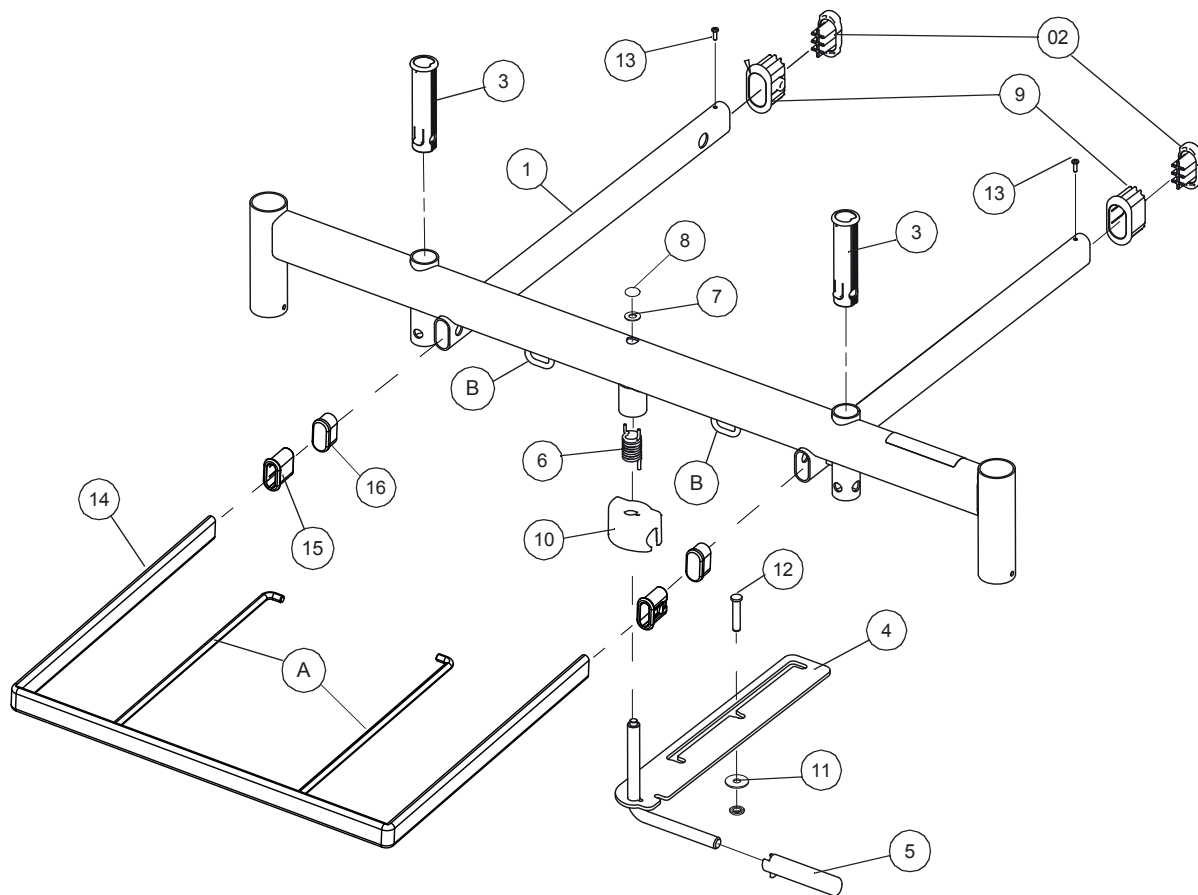

Figure 19: Bed Extension / Bed Stripper Assembly
This section describes how to replace the bed extension and optional bed stripper. Reference is made throughout this section to Figure 19 on page 59.
- 20.1.1 Pull out the bedstripper (if fitted) as far as it will go (Fig 19, Item 14). Push the two middle bars (A) outwards so they will pass through the retaining loops (B) and remove the bedstripper from the extension assembly.
- 20.1.2 Pry off and discard the starlock (Fig 19, Item 8) from below the foot end of the sub-frame. Collect the washer (Fig 19, Item 11). Pull out the clevis pin (Fig 19, Item 12) to free the bed extension locking handle fabrication (Fig 19, Item 4). Note: the handle will spring across when the clevis pin is removed.
- 20.1.3 Push in the locking tabs on the side of each extension bush moulding (Fig 19, Item 9). Pull the extension assembly out of the sub-frame.
- 20.1.4 To remove the extension locking handle: pry off and discard the capped starlock (Fig 19, Item 8), collect the washer (Fig 19, Item 7). Pull out the handle from below and collect the handle cover (Fig 19, Item 10) and spring (Fig 19, Item 6).
- 20.2.1 Fit the spring (Fig 19, Item 6) and cover (Fig 19, Item 10) on the extension locking handle fabrication (Fig 19, Item 4). Assemble the handle into the extension fabrication (Fig 19, Item 1); make sure the spring locates in the slots on the locking handle and extension fabrication. Secure with the washer (Fig 19, Item 7) and a new capped starlock (Fig 19, Item 8). Make sure the handle swings freely about the pivot but is not too loose.
- 20.2.2 Slide the extension assembly into the sub-frame. Push the extension bush mouldings (Fig 19, Item 9) into the sub-frame tubes so that the locking tabs engage the holes in the tubes.
- 20.2.3 Fit the clevis pin (Fig 19, Item 12) down through the sub-frame foot end cross member, so that it fits into the groove on the extension locking handle. Fit the washer (Fig 19, Item 11) and a new starlock (Fig 19, Item 8) below the handle to secure it. Check that the bed extension slides in and out easily and latches securely in all three positions.
- 20.2.4 Slide the bedstripper fabrication into the extension assembly (Fig 19, Item 14). Push the two middle bars (A) outwards so they will pass through the retaining loops (B).